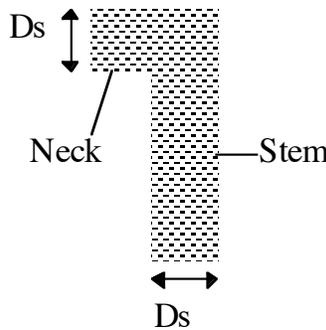

Figure 4: Side view of the idealized hip prosthesis. Both the neck and stem regions of the prosthesis are modeled as circular cylinders with identical diameter.
- 2) Assuming that both the neck and stem portions of the prosthesis can be modeled as circular cylinders of identical diameter (Figure 4), the flexural stiffness of the stem (alone) should equal the flexural stiffness of the femoral neck (Figure 3B). This is to ensure that the overall stability is sufficient, *i.e.* the prosthesis doesn't deform too much upon load bearing. Table 1 gives all the relevant dimensions for the problem.